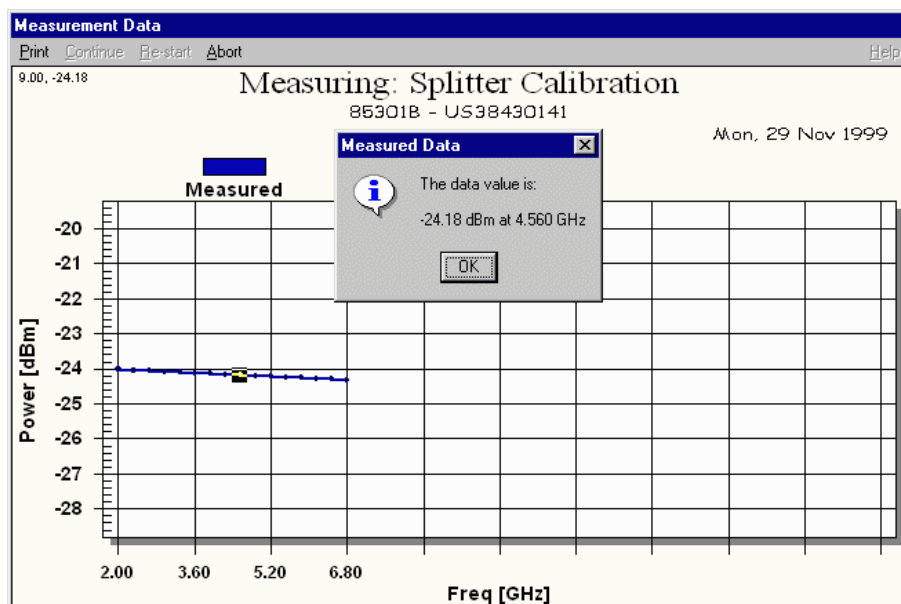

Figure 29 *Graphical Information Window*
- Individual test results are presented graphically. These graphs are displayed to indicate the progress of specific tests. To see the frequency and amplitude of any specific data point, place the cursor on the data point, and when the cursor changes to a hand, click the left mouse button. See Figure 29.